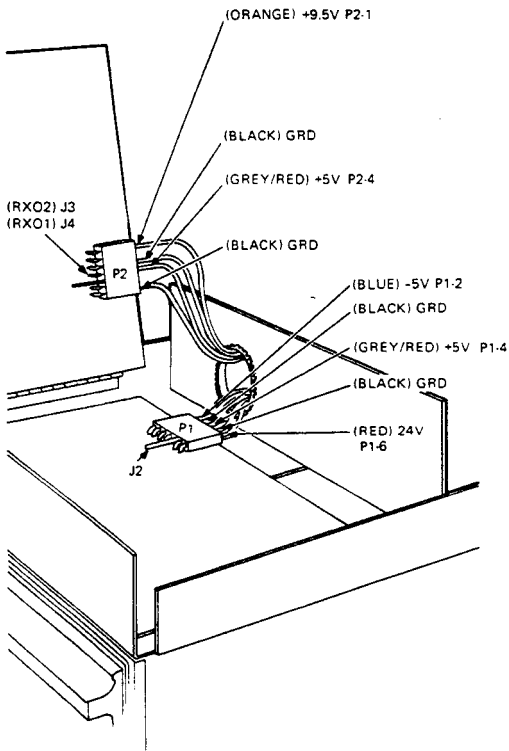

Figure 1-4 Power Supply Voltage Checks
Use Table 1-5 and Figure 1-4 for all dc voltage checks. There are no adjustments. If voltages are incorrect, replace the power board (Paragraph 2.7) or the power supply (Paragraph 2.6).
* Use with Figure 1-4.